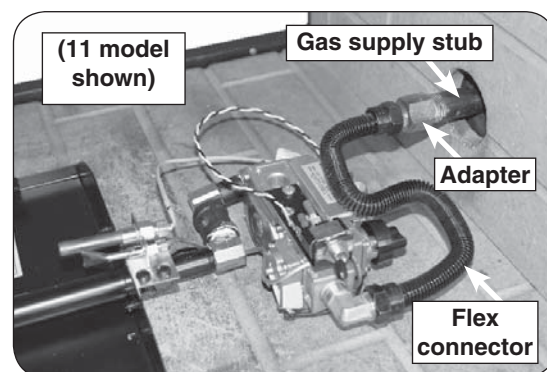

Fig. 17-1 Connect gas supply
2. Locate the gas-supply stub inside the fireplace and remove the cap, if attached (reference Fig. 17-1).
5. **Be sure gas to the fireplace is off.** Remove the adapter connected to the flex connector. Attach the adapter to the gas-supply stub using a pipe compound resistant to all gasses. Tighten securely. Then attach the open end of the flex connector to the adapter. Tighten securely (see Fig. 17-1). Ensure the pan rests level on the fireplace floor after connection. Adjust the pan if necessary.